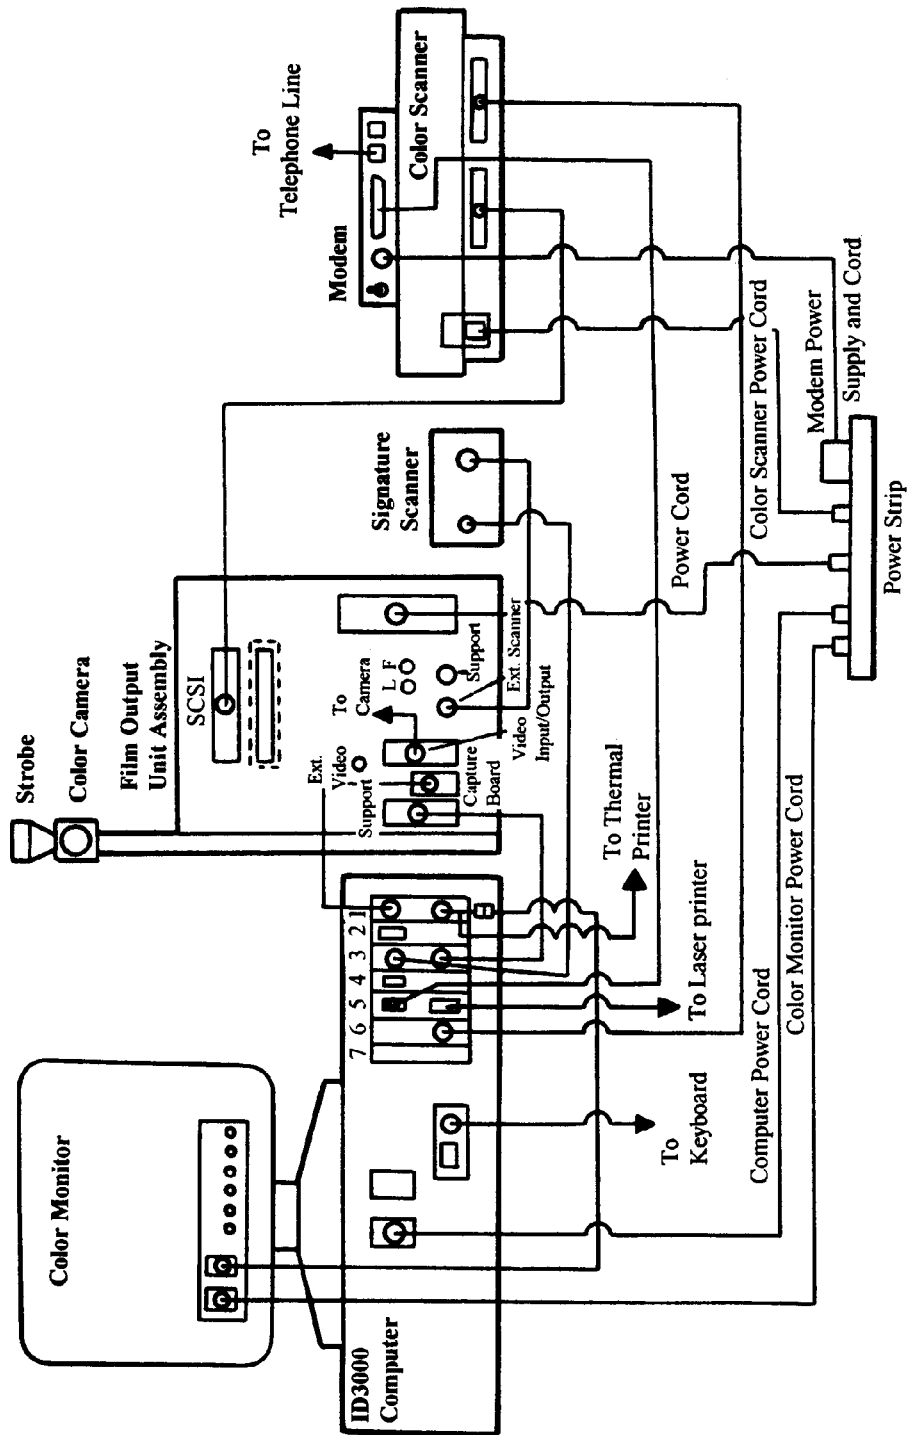
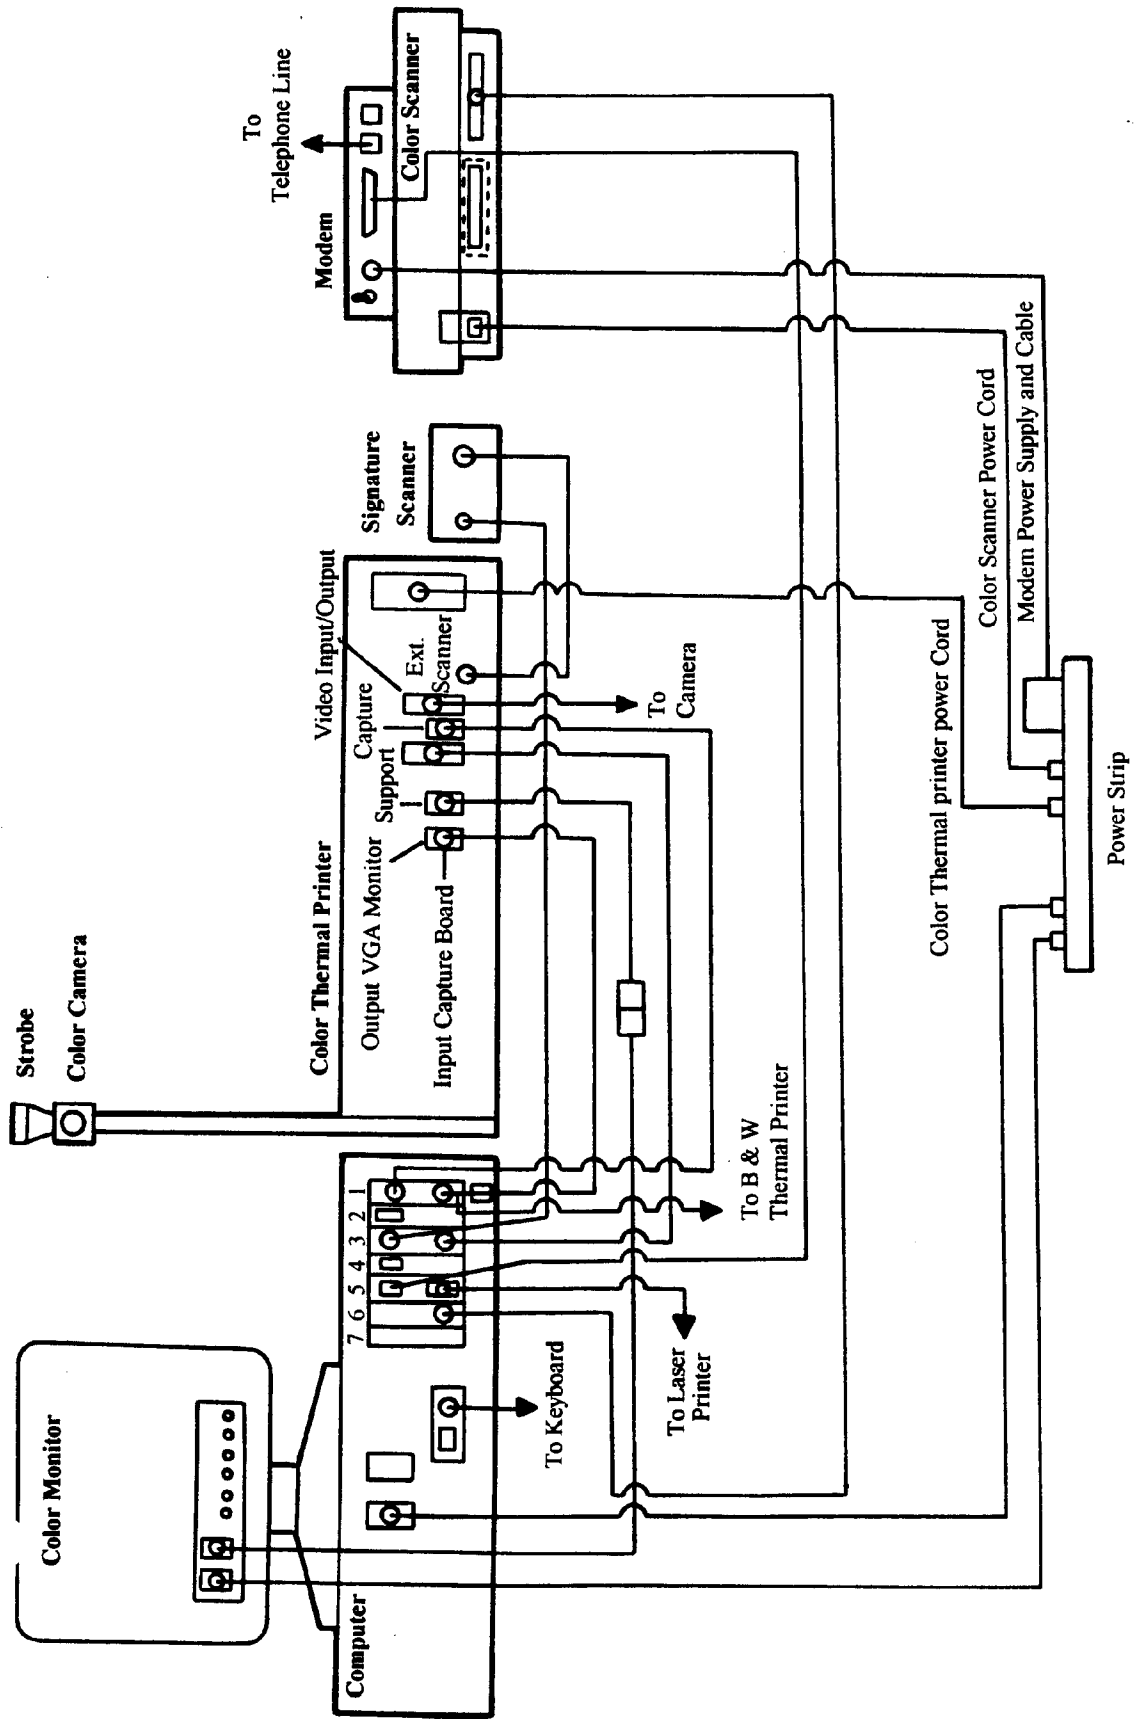

Figure 2-7 ID-3000F System Cable Connections
Figure 2-8 ID-3000T System Cable Connections
1. Lay out the cables, checking them against the lists below and Figure 2-7 (ID-3000F system) or Figure 2-8 (ID-3000T system), to assure that you have a complete set.
2. Connect all cables according to either Figure 2-7 or 2-8.